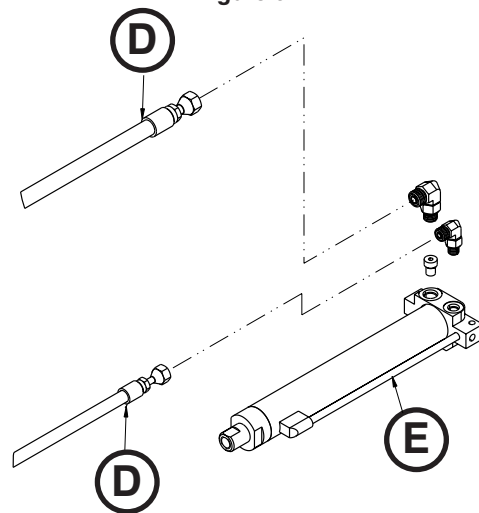

Figure 98
5. Using a 11/16" and 13/16" combination wrench, remove both hoses (D) from the hydraulic cylinder (E) (Figure 98).